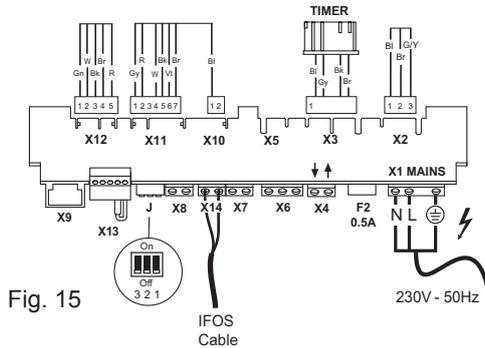

Fig. 15
3. Connect the IFOS cable to the grey T-OUT connector (X14 Fig. 15). There is no polarity. Refit and secure the cover.